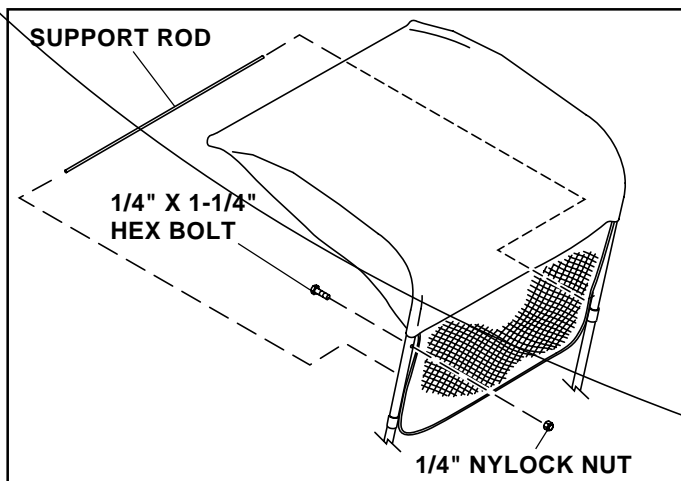

FIGURE 10
- Fasten top tubes to upright tubes using two 1/4" x 1-1/4" hex bolts and two 1/4" nylock nuts. See figure 10.
- Insert one end of the remaining support rod into the small hole in one of the upright tubes. Insert the other end of the support rod into the small hole in the other upright tube. It will be necessary to flex the rod slightly so it can be inserted in the second hole. See figure 10.